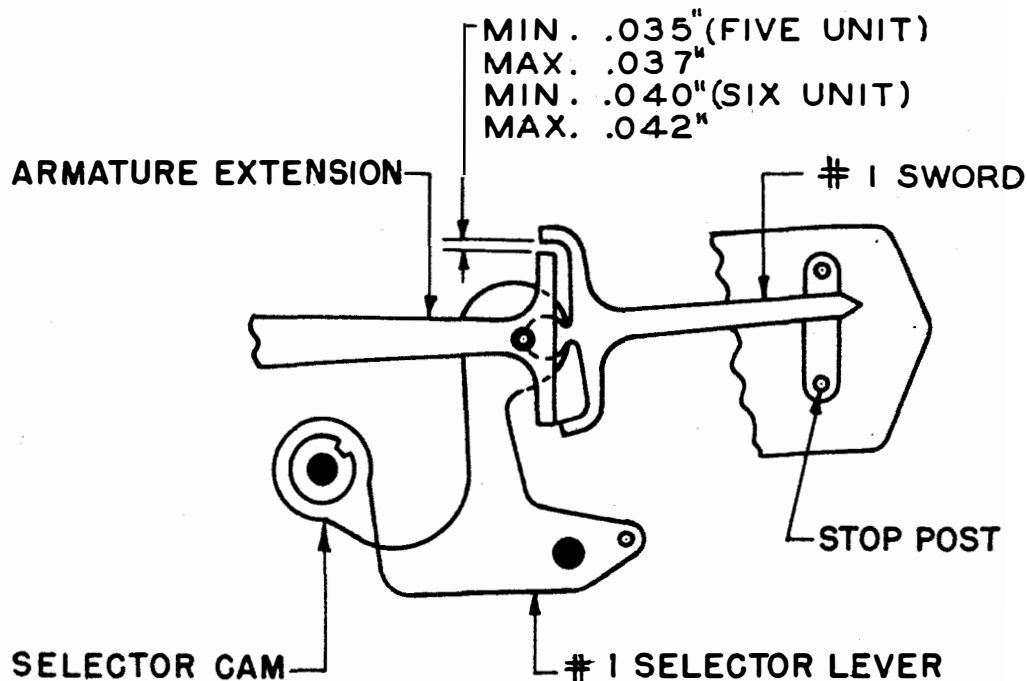

Figure 17
2.19 No. 1 Sword Arms* (pulling magnet) should clear the associated arms of the armature extension by minimum 0.035 inch, maximum 0.037 inch (five-unit), minimum 0.040 inch, maximum 0.042 inch (six-unit), as indicated in Figure 17, when the end of the opposite sword arm is against its armature-extension arm and the No. 1 selector lever is on the high part of its cam.